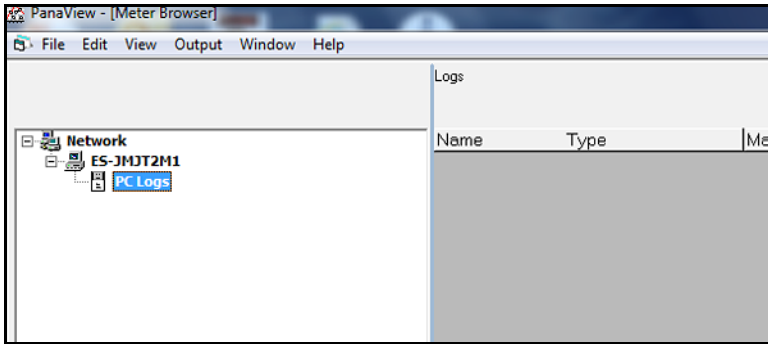

Figure 25: The PC Logs Branch
2. Fully expand the network tree by clicking on the “+” sign next to the *My Computer (Name)* branch (see *Figure 25* below).
1. Open the “*New Meter Browser*” window and expand the network tree as shown in *Figure 25 on page 37*. Then, highlight the *My Computer (Name)* branch by clicking on it.